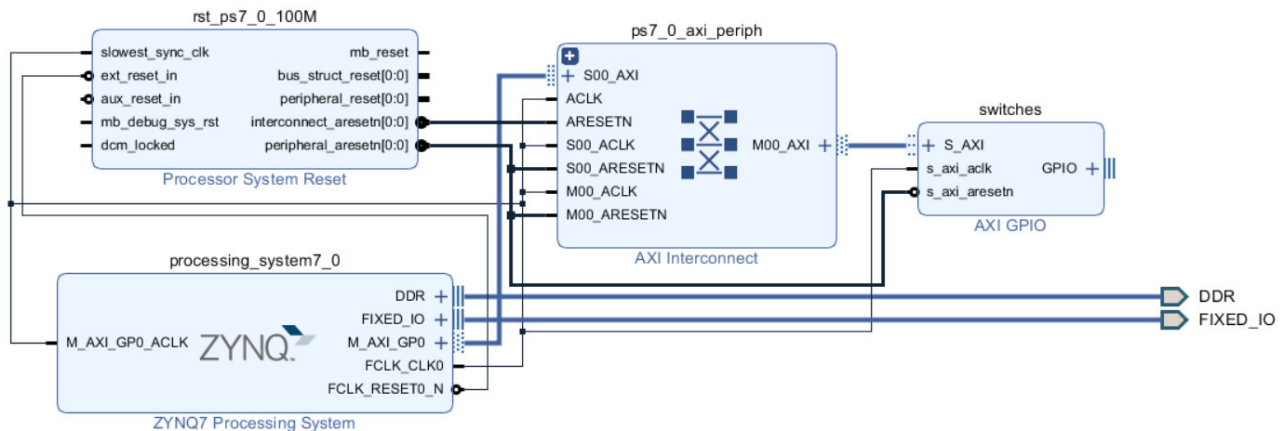

Figure 20: Updated block diagram
12. Click **Regenerate Layout**. You should see a block diagram as shown in Figure 20.